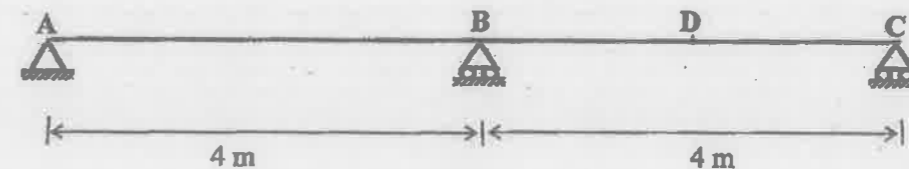

Fig. 6
16. Draw the influence line diagram for bending moment at the midpoint D of span BC for the continuous beam ABC shown in Fig.6.